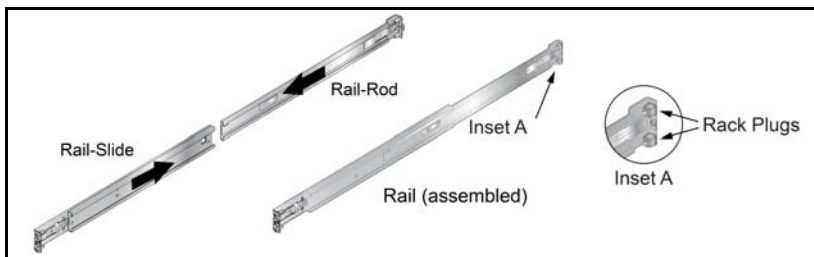

Figure 10: Assembling the Rails
Each end of an assembled rail contains two rack plugs (Figure 10, inset A). The rails are installed into a rack by inserting the plugs into rack slots. When installing rails into posts with threaded or rounded holes, remove all plugs located on both sides of the assembled rails, then install the rails with bolts that fit the rack.
Step 1 Slide a rail-rod into a rail-slide (Figure 10) until the rail clip makes an audible click.